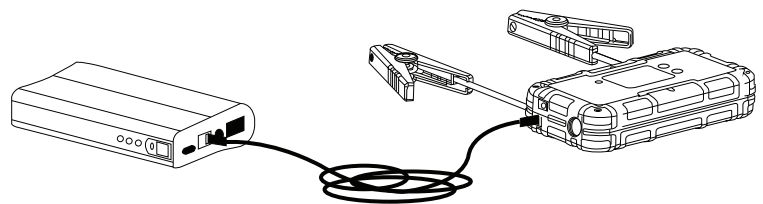

Fig. 5
- 4) **From a USB** - The PLT-99300 can be recharged from any 5V 2A USB port, using a Micro USB adapter (PRT99300-02). Recharging starts automatically. (Fig 5) After approx. 20min, once the LCD display shows capacitor voltage 15V, you can continue with the connection and starting instructions in Standard Mode.